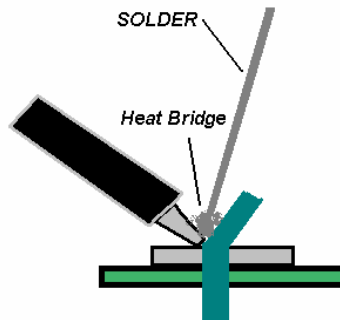

Figure 4: the heat bridge is highlighted
6. Put a small amount of solder on the iron between the pad and the lead, this forms a heat bridge. **Figure 4**